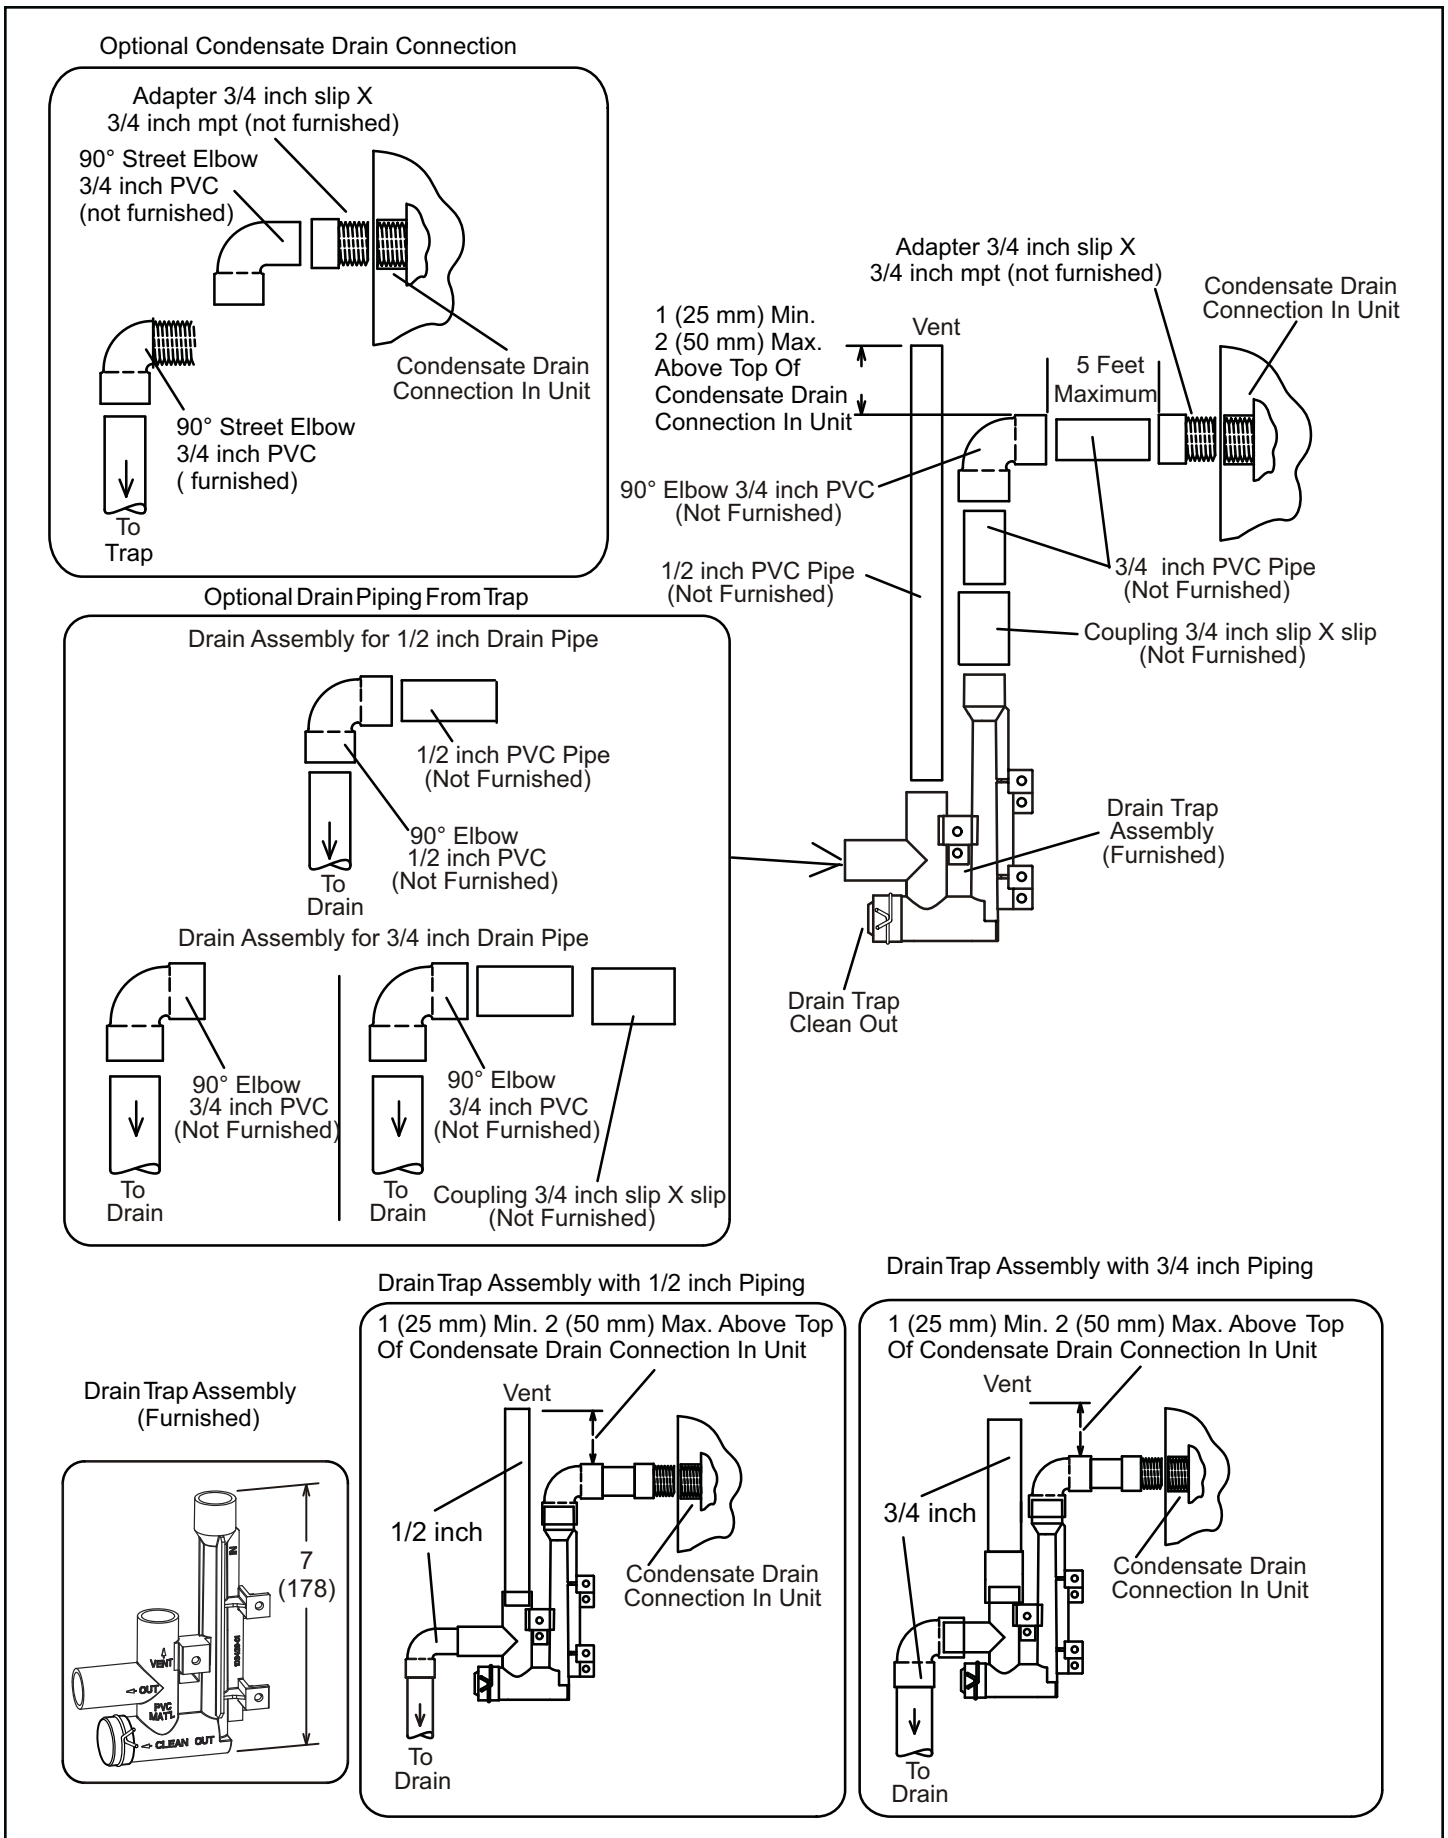

Figure 45. Trap Drain Assembly Using 1/2" PVC or 3/4" PVC
3. Install the cap over the clean out opening at the base of the trap. Secure with clamp. See Figure 45.
4. Install drain trap using appropriate PVC fittings, glue all joints. Glue the provided drain trap as shown in Figure 45. Route the condensate line to an open drain. Condensate line must maintain a 1/4" downward slope from the furnace to the drain.